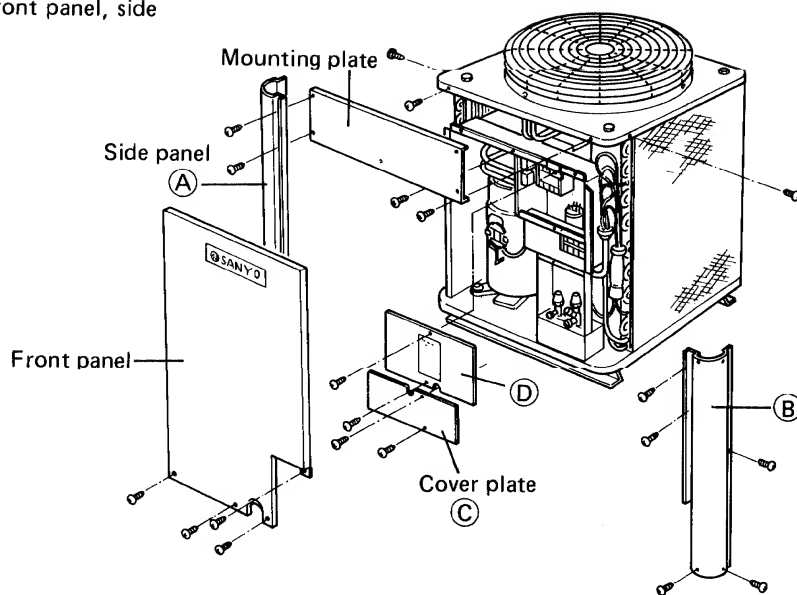

Fig. 9
- 1) Remove the outer panels in the order of front panel, side panel (A), and side panel (B).
- 2) Remove the cover plates (C) and (D).
- 3) Remove the mounting plate. Fig. 9
- 1) Many wires have to be removed. When removing wires, carefully check the electric diagram on the rear side of the cover plate (D) Fig. 9. Reconnect the wires correctly after replacing the compressor.